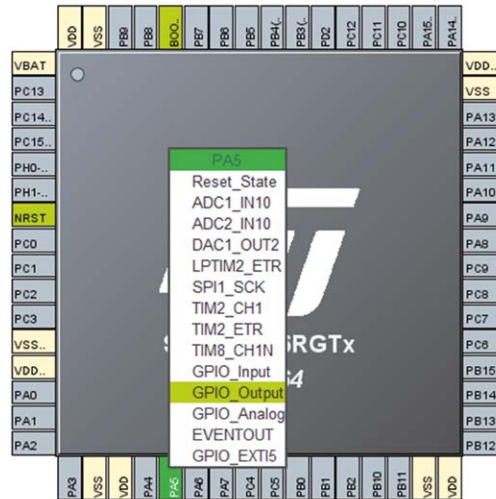

Figure 5.8: Configuring PA5 as an output.
- Click on pin PA5 and select **GPIO_Output** to configure the pin as an output (Figure 5.8). The pin colour should turn to green.